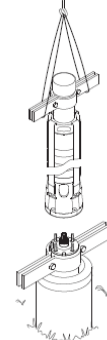

Fig. 3: **Lifting the pump into correct position**
- Lift the pumping part using the pipe clamps attached to the extension tube, see Fig 3.